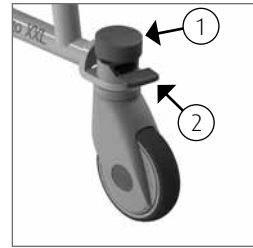

Figure 1 Swivel wheel.
- The brake can be applied on the Tango XXL by pushing the blue cap (1) on the wheel downwards (See figure 1).
- To take the Tango XXL off the brake, the lip (2) on the wheel must be pushed downwards.